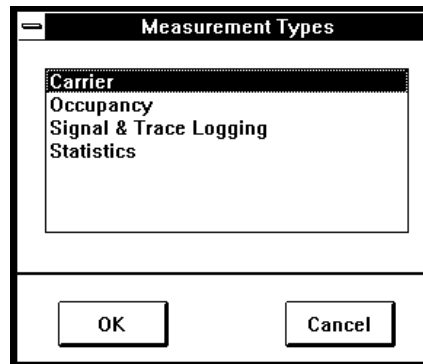

Figure 6-28: Measurement Types Dialog Box
5. If a measurement that you need does not appear in the **Measurement Select** list then click on **C**reate to open the **Measurement Types** dialog box (Figure 6-28).